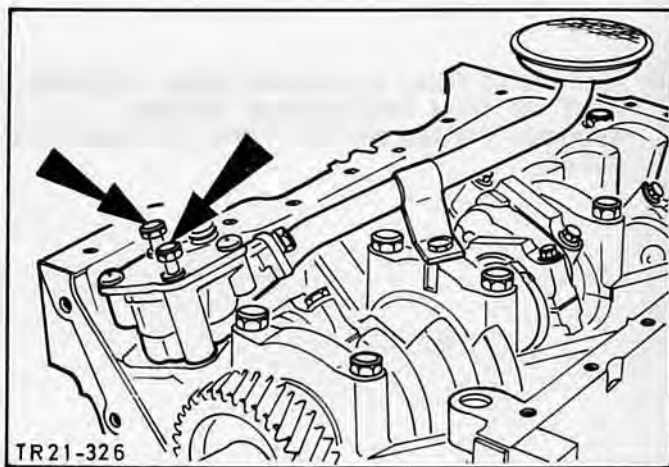

Fig.62. Oil pump complete with suction pipe.
52. Install oil pump complete with suction pipe and drive shaft, Fig.62. Tighten screws to specified torque.